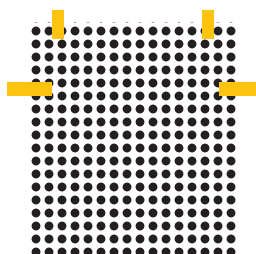

Figure 02
- › Apply a strip of masking tape at both sides of the graphic, at about 20 cm (8 in.) from the top edge. (FIG. 02)